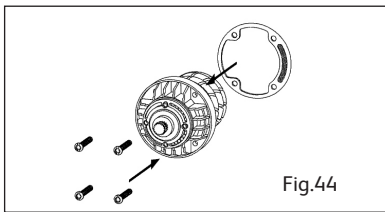

Fig.44
13. Push your existing four brass cartridge fixing screws through the face of the cartridge and attach the gasket to the screws ensuring that it is correctly positioned (Fig 44).